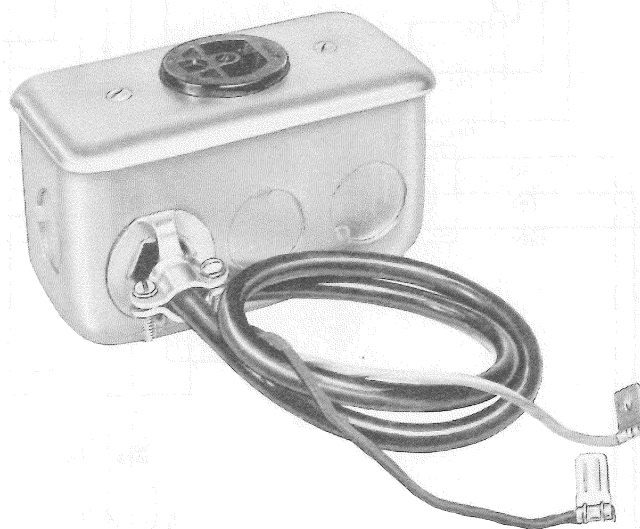

Fig. 23—KS-19580, List 51 Receptacle Assembly
- 4.03 One KS-19580, List 51 receptacle assembly (Fig. 23), must be used in conjunction with a KS-19261, List 1 light control unit in multiple installations where KS-19207 light units without blowers are used.